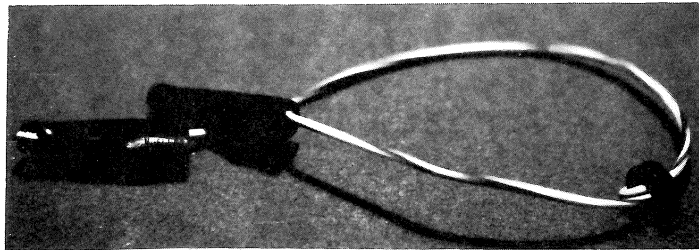

Figure 15
2. Using a shorting strap (example shown in Fig. 15) short pins 1 and 3 of the interconnecting plug. (Fig. 16 shows pins 1 and 3 shorted at the SPOILER SWITCH.)